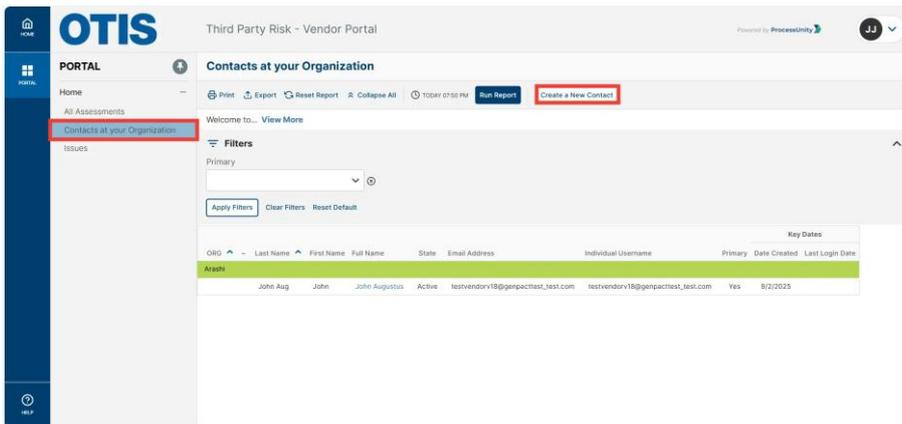

Figure 8
1. The supplier can create a new contact by navigating to the Contacts at your Organization tab and clicking on the Create a New Contact button. (Refer figure 8)